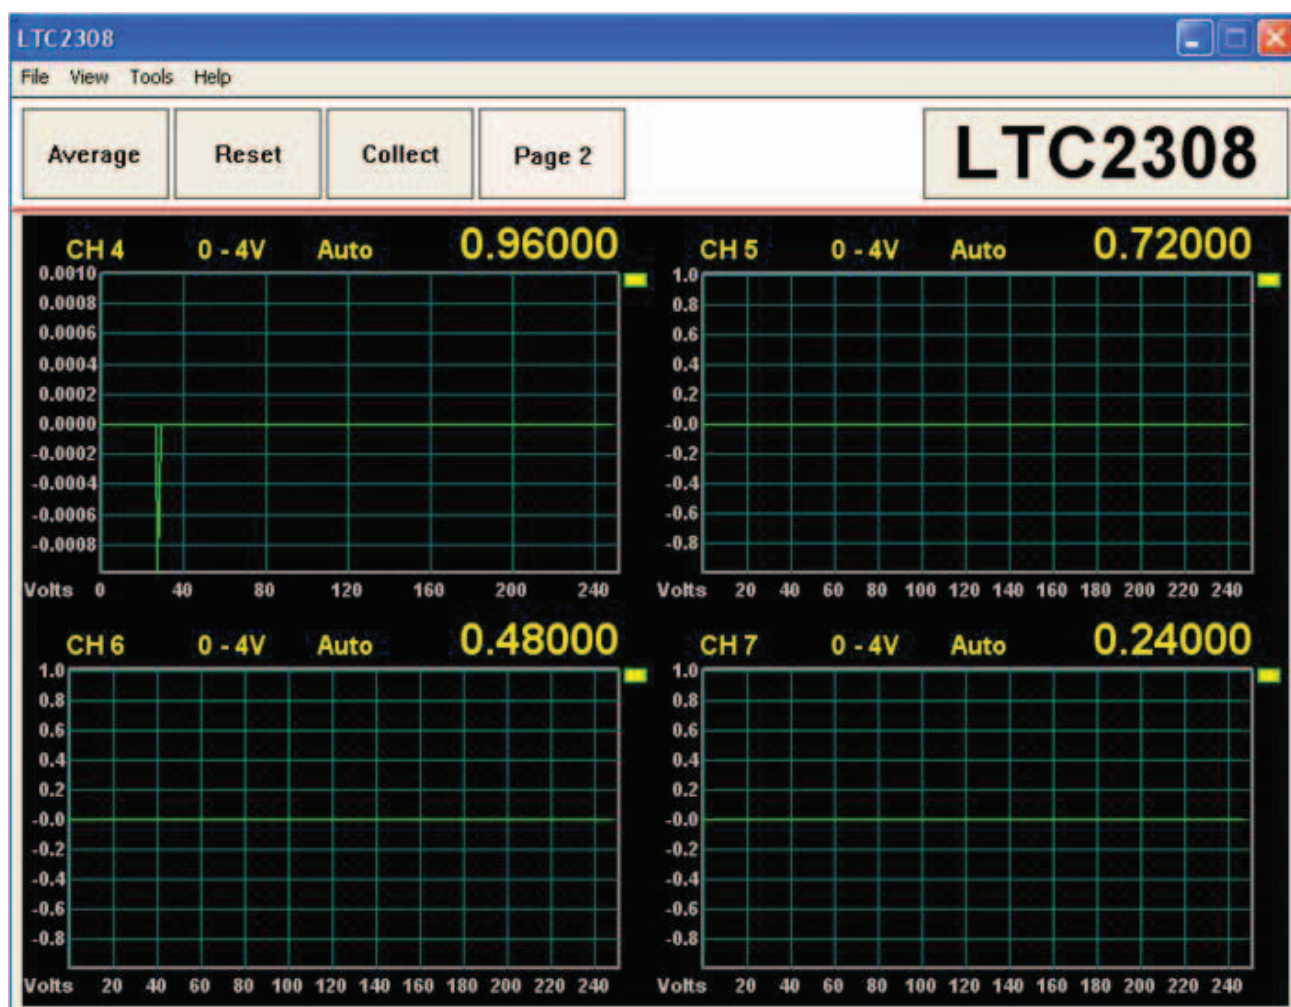

Figure 5. DC1186A QuikEval Screenshot
- Change the channel and range by right clicking over the channel or range indicator in the display, as shown in Figure 5.